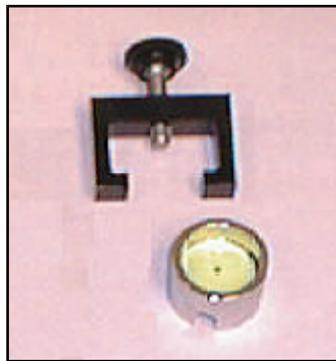
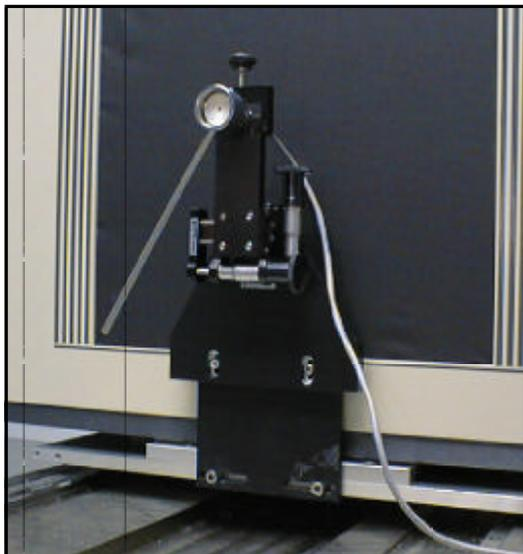

Figure 2-25. C-clamp and phosphor aperture.
Figure 2-26. Pin diode, phosphor aperture on jig.
- 8) Using the C-clamp, Figure 2-25, on the focusing jig, clamp the PIN diode probe assembly onto the jig.
- 9) Slide the 0.5 mm phosphor aperture, Figure 2-25, onto the end of the probe assembly and tighten the set screw. (The phosphor aperture allows the beam to be located more easily.) Figure 2-26 shows the probe assembly with the phosphor aperture in place on the focusing jig.